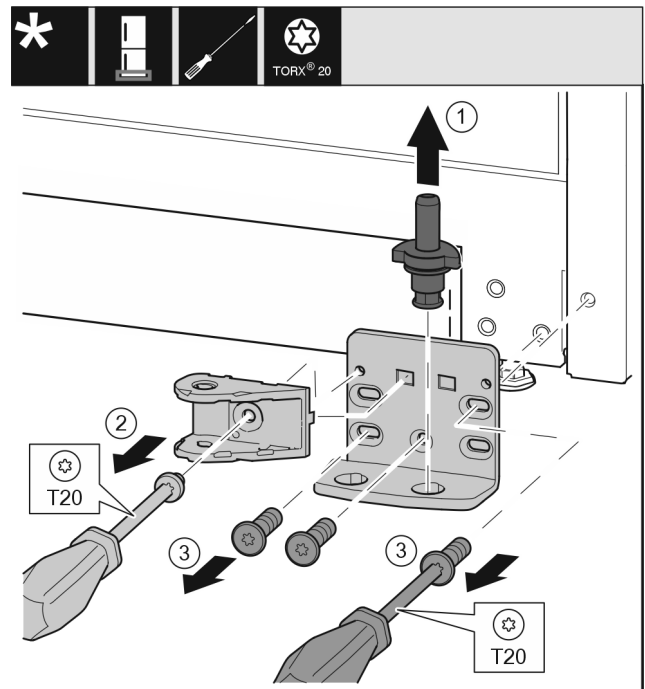

Fig. 32 \*
- ▶ Lift the bearing pin completely upward and remove it. Fig. 32 (1)\*
- ▶ Remove the screw with the T20 screwdriver and take off the soft close connection. Fig. 32 (2)
- ▶ Remove the screws with the T20 screwdriver and take off the bearing bracket. Fig. 32 (3)\*